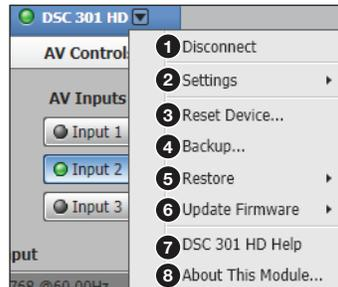
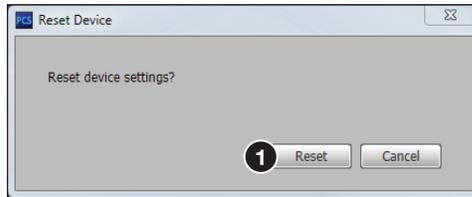
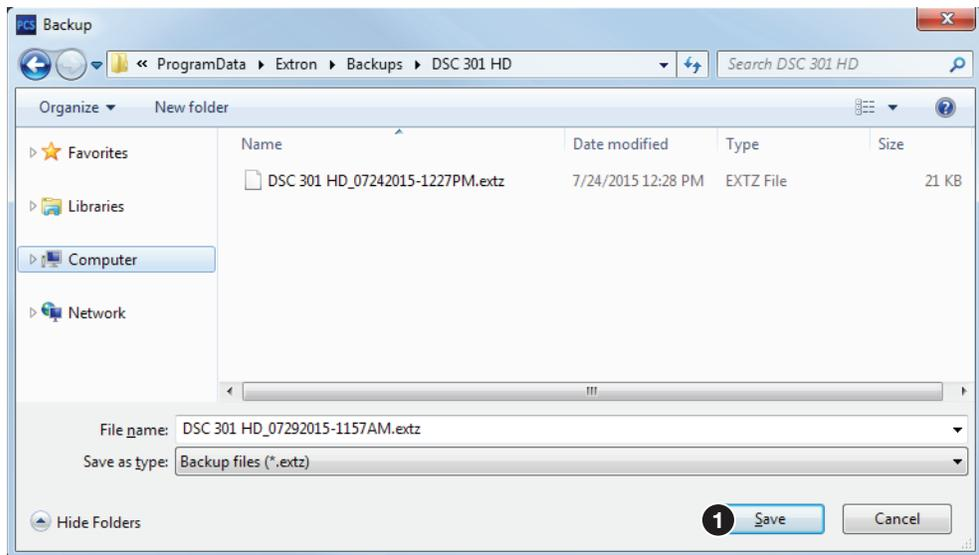
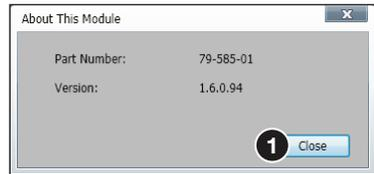

Figure 23. Device Menu
Figure 25. Reset Device Dialog Box
Figure 26. Backup Window
Figure 28. About This Module Dialog Box
The **Device** drop-down list (see figure 23) contains options for disconnecting, viewing hardware settings, resetting the device, backing up and restoring device configurations, updating firmware, accessing help file, and viewing software module information.
From the **Device** drop-down list, select **Settings** (see figure 23, 2) > **Hardware Settings**.... The **Hardware Settings** dialog box opens showing **Unit Information**.
From the **Device** drop-down list (see figure 23, ③, on the previous page), select **Reset Device...** The **Reset Device** dialog box opens (see figure 25).
1. Select **Backup...** from the **Device** drop-down list (see figure 23, ④). A **Backup** window opens (see figure 26).
2. Select **Restore...** from the Device menu (see figure 23, ⑤ on page 44) and then **Restore This Device** from the device drop-down list. A **Restore This Device** dialog box opens.
This menu option (see figure 23, ⑥) uploads firmware from the host device to a single connected device.
From the **Device** drop-down list, select device specific **Help** (see figure 23, 7 on page 44). The help file opens in a separate window.
From the **Device** drop-down list, select **About This Module...** (see figure 23, 8). The **About This Module** dialog box opens (see figure 28).